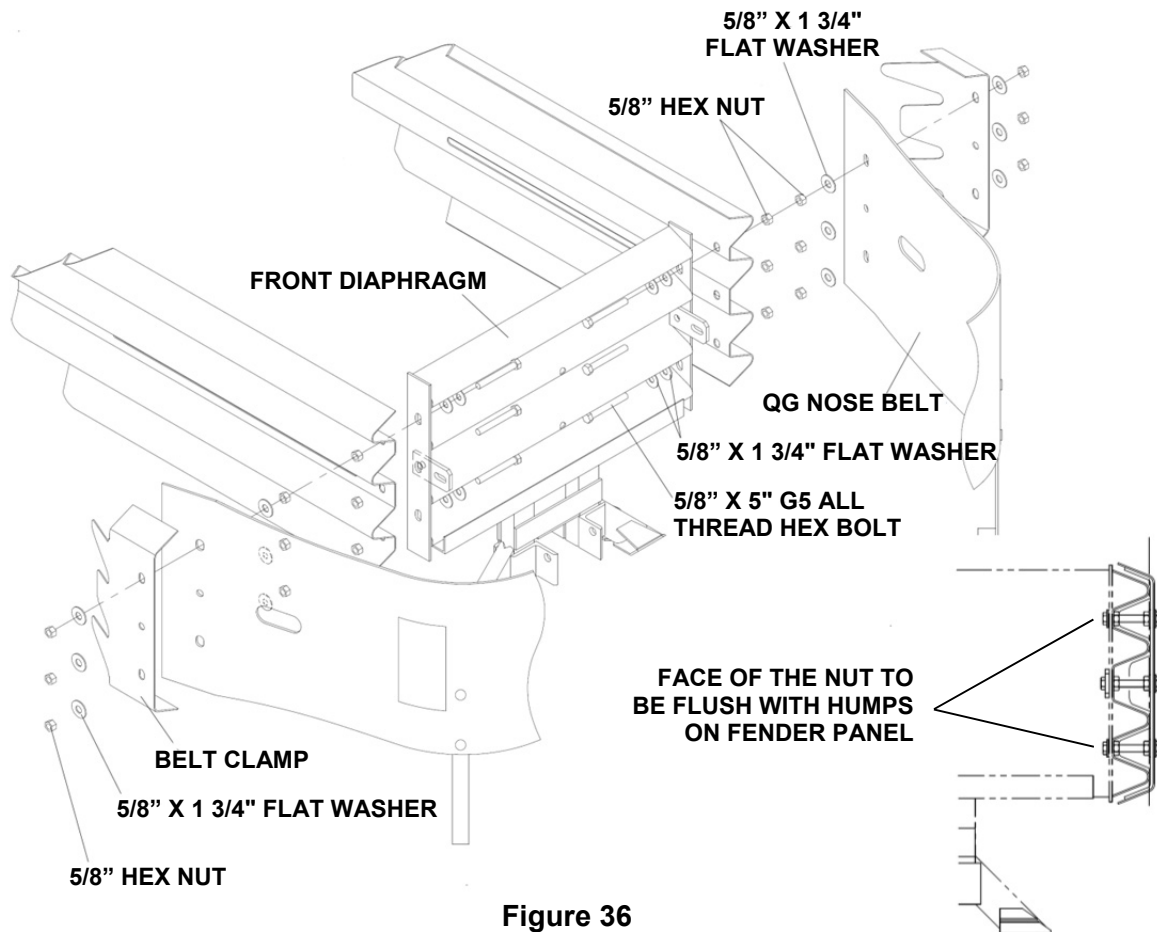

Figure 36
- a. Using 5/8" x 5" hex bolt, two (2) 5/8" x 1 3/4" flat washers and 5/8" hex nut, attach Fender Panel to front Diaphragm top and bottom as shown in Figure 36 (two places per side).
- c. Thread second 5/8" nuts onto the attached bolts. Be sure the faces of the nuts are flush with humps on Fender Panels (see Figure 36). Slide third 5/8" x 1 3/4" flat washers onto bolts (three places per side).